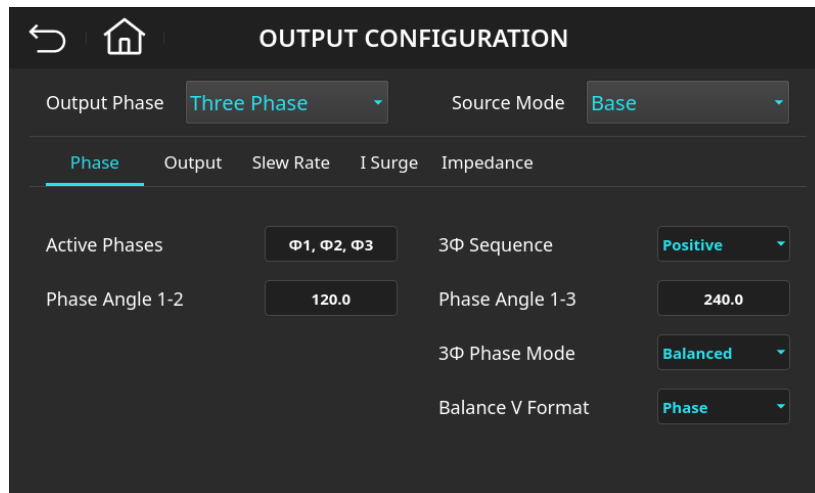

Figure 4-30: Output Configuration (Phase) Page – Balanced Mode with Phase Voltage Setting
- Select "Phase", as shown in Figure 4-30.